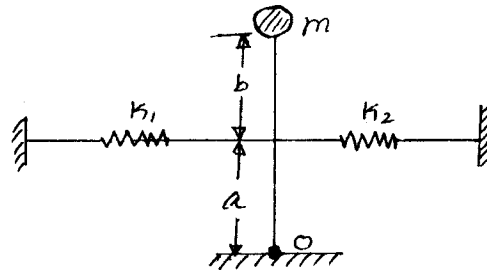

Fig. Q2 (b)
- b. Find the natural frequency of vibration of the system shown in Fig.Q2(b) for small amplitudes. If K_1 , K_2 , a and b are fixed, determine the value of b for which the system will not vibrate. Find maximum acceleration of the mass. (12 Marks)